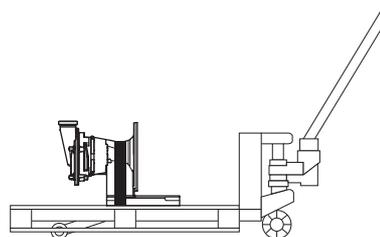

Fig. 40 Moving with pallet truck
- ▶ Ensure that the pump is adequately secured to the pallet, for example, with straps; see Fig. 40, "Moving with pallet truck," page 29.